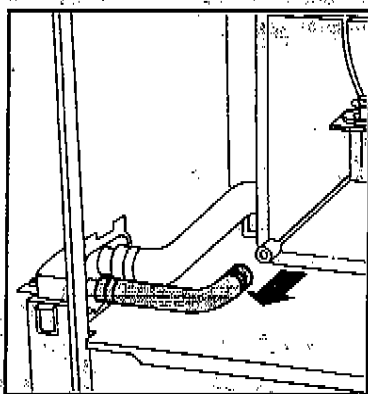

Fig. 41—Inducer Housing Drain Tube
a. Disconnect condensate drain tube from inducer housing (medium diameter tube on condensate drain trap). (See Fig. 41.)